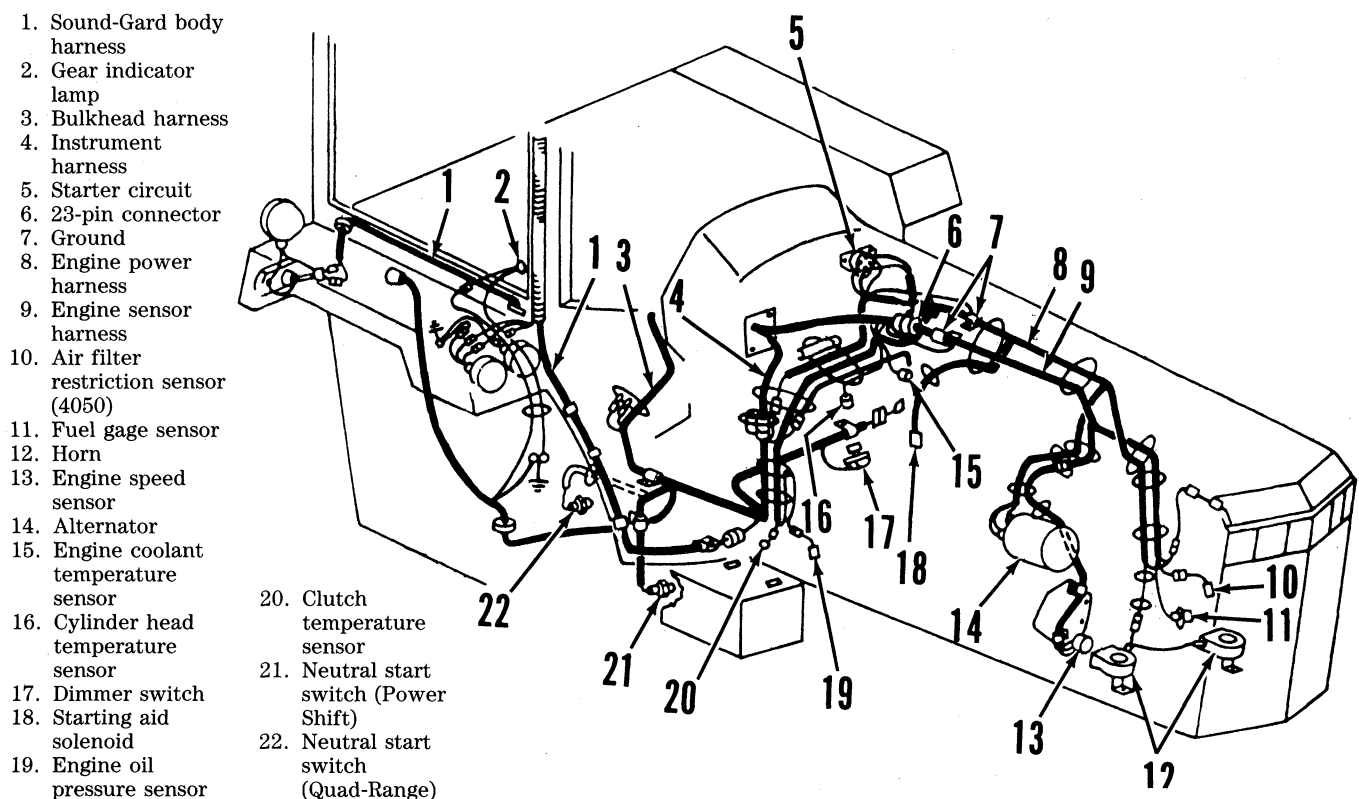

Fig. 292—Wiring harness diagram showing components on right side of tractors equipped with Investigator II warning system.
Fig. 293—Wiring harness diagram showing components located on right side of tractor equipped with gage cluster and analog tachometer. Refer to Fig. 292 legend except for 19-pin connector (25).